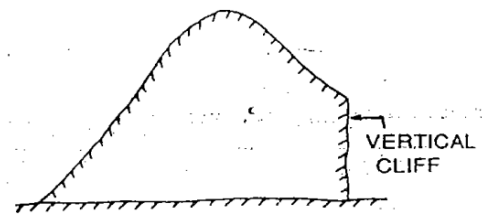

Figure 11.11 : Vertical cliff
- Contour lines meeting at a point indicate a vertical cliff (Fig. 11.11).